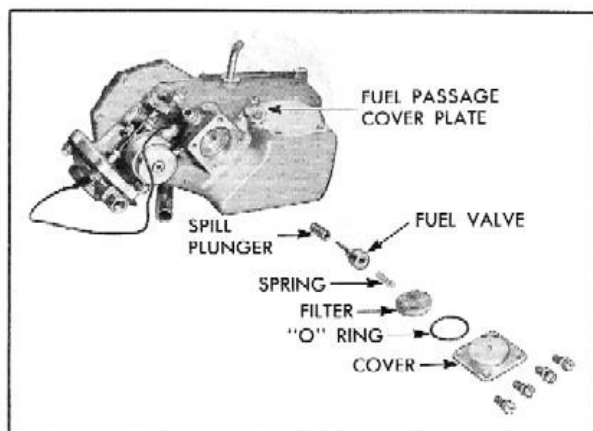

Fig. 25 Installation of Fuel Valve Components
6. With the fuel meter upside down, install the spill plunger, fuel valve, spring, and filter, Fig. 25. Install a new "O" ring on the spill plunger cover and lubricate with light engine oil--not grease. The addition of oil is important to prevent cutting the "O" ring during installation. Carefully push the cover into place until it is fully seated, then install the four screws and lockwashers and tighten uniformly in a criss-cross pattern.